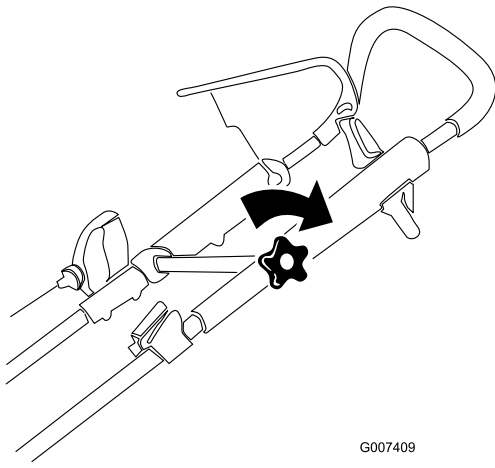

Figure 5
3. Move the upper handle to the desired position and tighten the upper handle knob firmly (model 20996 only) (Figure 5).